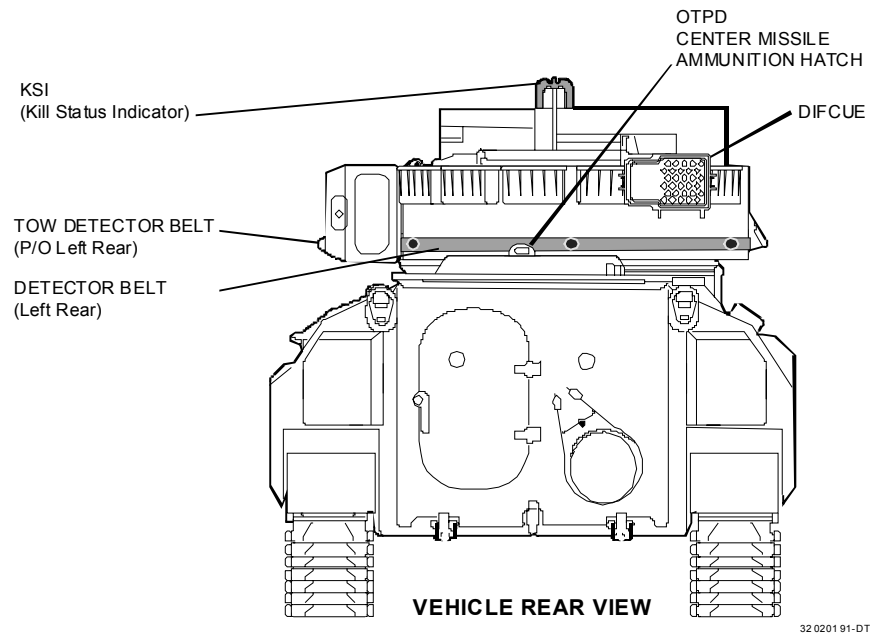
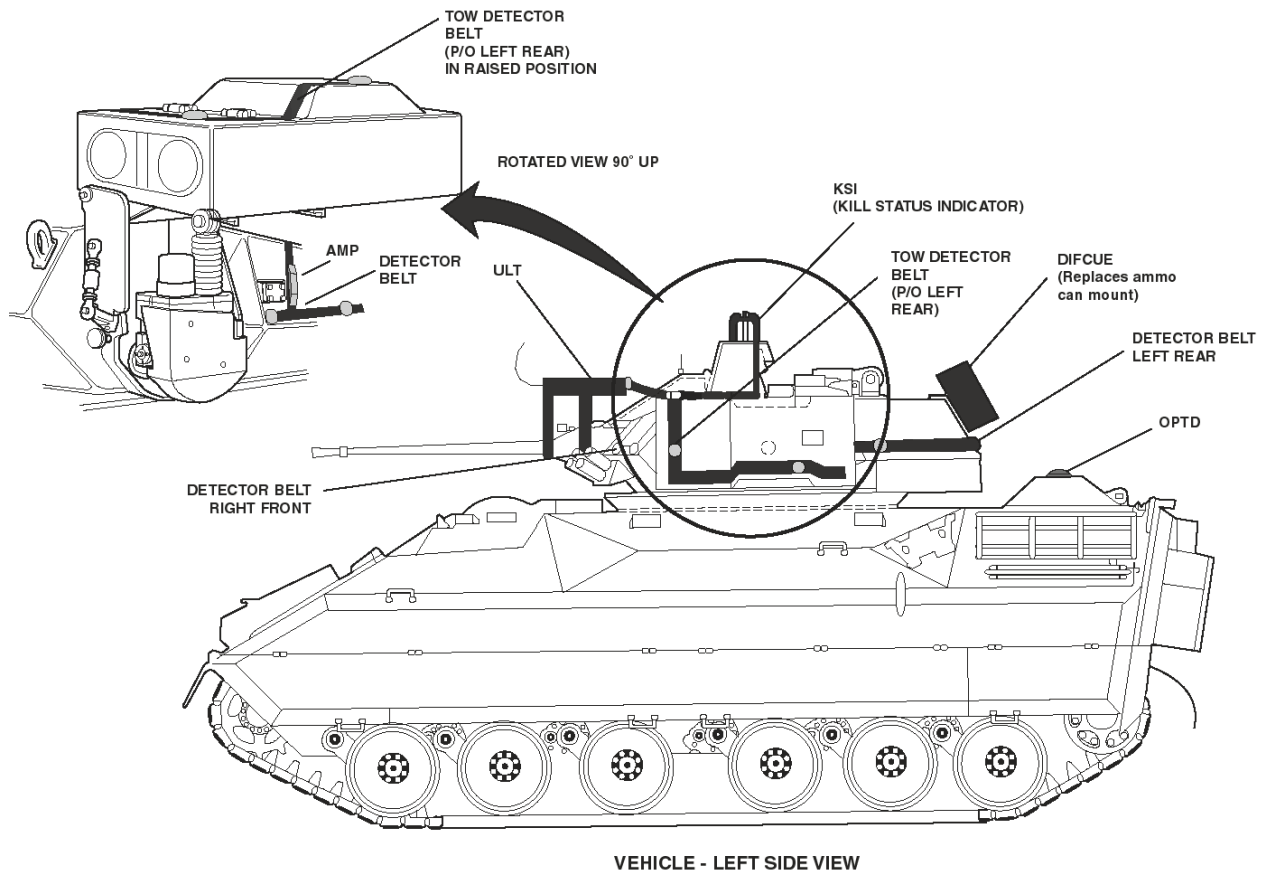

Figure 2-15. M2/M3 Rear View.
Figure 2-16. M2/M3 Detector Belt Location.
- b. The detector belt labeled **Left/Rear** starts on top of the turret at the left front corner with the connector (P5) attached at that location (Figure 2-15). The attached “L” shaped TOW detector belt (part of left rear belt) is then routed down the forward-facing edge of the lowered TOW with the bottom of the L routed towards the rear of the vehicle (Figure 2-16). The main part of the belt will break off into two (2) segments, a short segment which is installed underneath the lowered TOW, and a long segment which is routed along the bottom edge of the right side of the turret, and around the rear of the turret. (The short segment installed underneath the lowered TOW will provide detectors along that portion of the vehicle when the TOW is raised into firing position.)